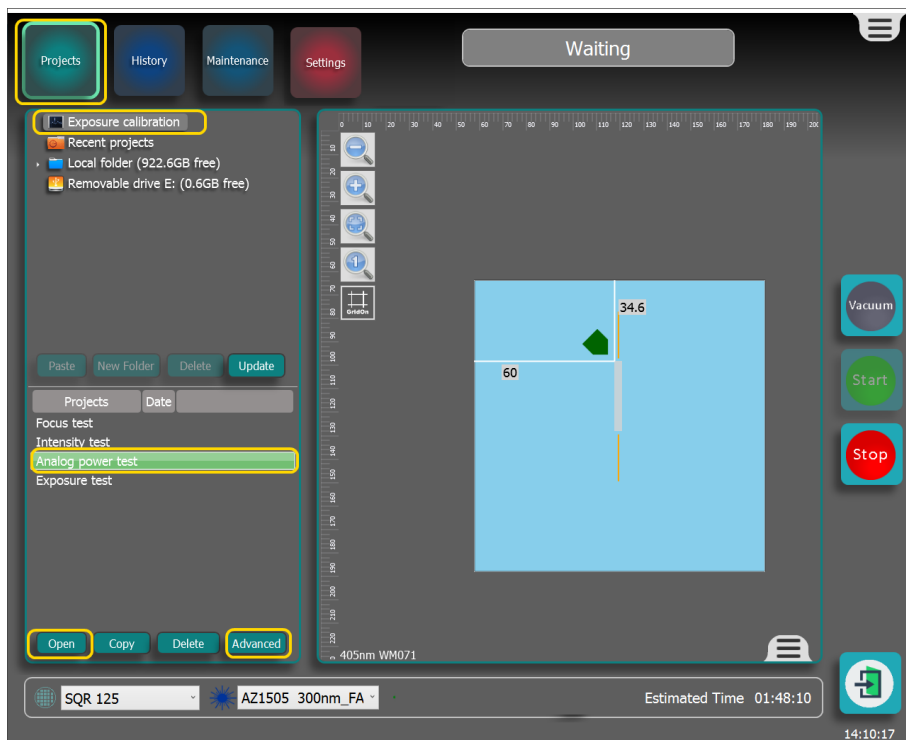

Figure 3-63 Starting the Analog Power Test
2. To start the Analog Power Test, select Projects, see Figure 3-63.